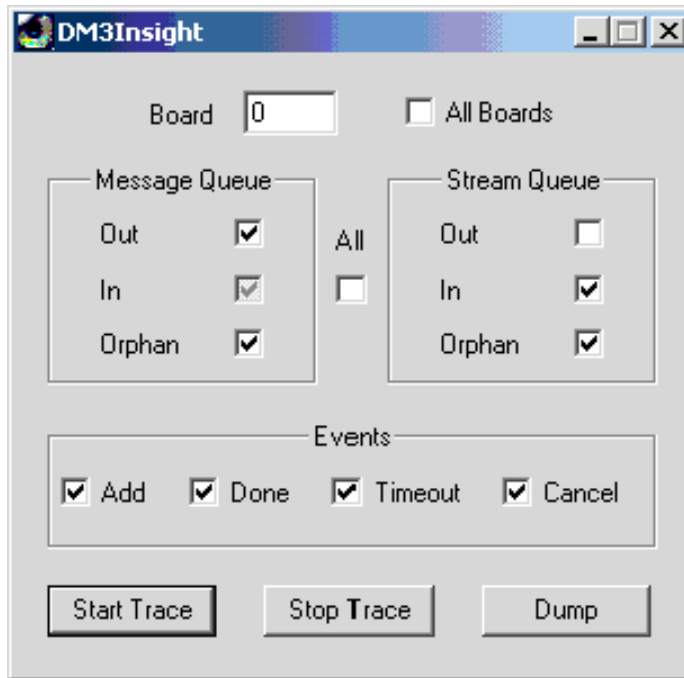

Figure 8. DM3Insight GUI
1. Execute the application with the following command: `DM3Insight`. The *DM3Insight* GUI appears (Figure 8).